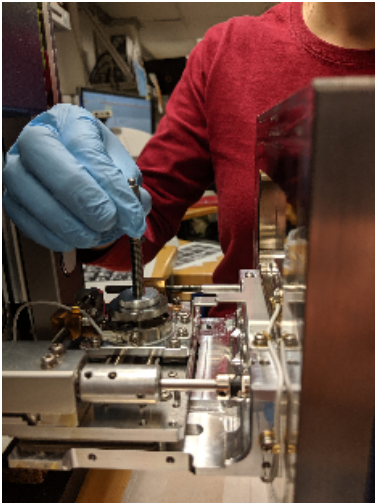

Figure 3. Sample Stage being removed
3. Pull the Sample Stage out (Fig 3). Close the door to keep dust out.